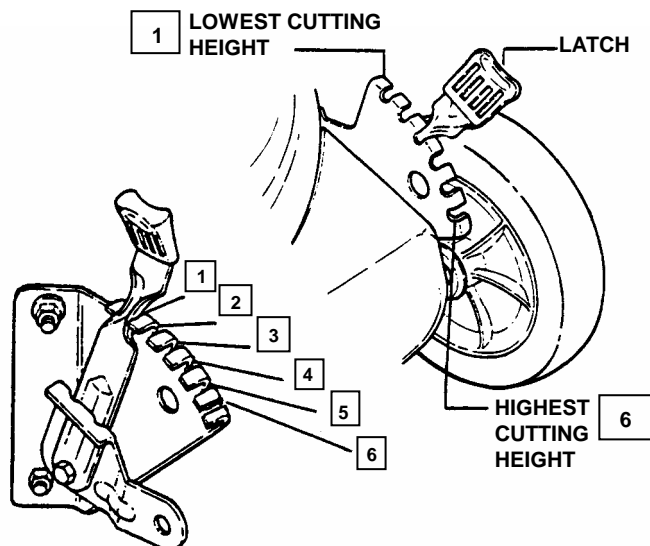

FIGURE 2.8
1. Pull the height adjusting latch outward and move to desired cutting height. See Figure 2.8.